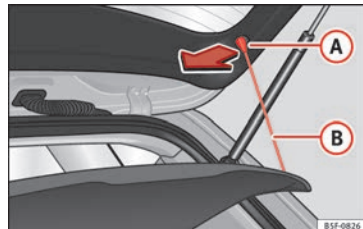

Fig. 159 In the luggage compartment: removing and installing the rear shelf.
- Unhook the loops » **Fig. 159 B** from their hooks **A**.
- Hook the loops » **Fig. 159 B** onto the rear lid » **A**.